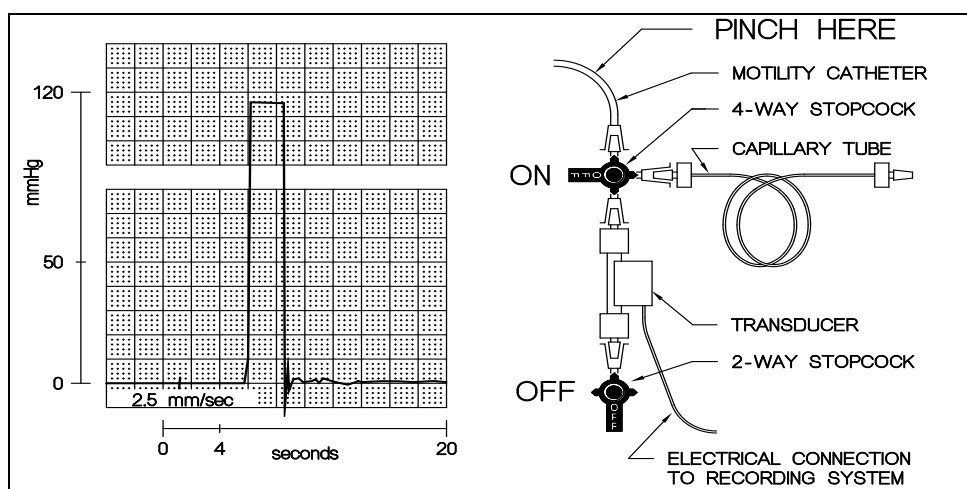

Figure 18: Pinch Test: Pinch Point and Output Graph
- Firmly pinch the manometric catheter for several seconds at a point immediately above the 4-way stopcock as shown in Figure 18 and release it. The pressure tracing should respond immediately with a virtually vertical rise to the full-scale pressure amplitude as set. See the graph in Figure 18. This response confirms that the entire system is functioning properly, with no leakage.